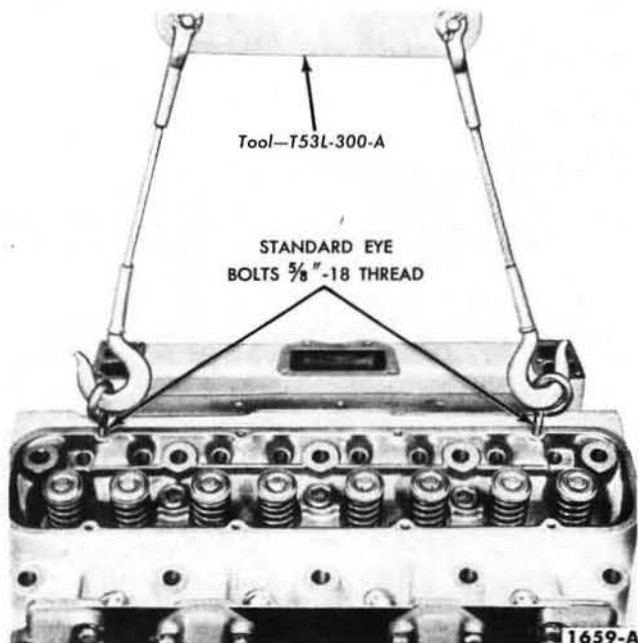

FIG. 20—Cylinder Head Removal or Installation
3. Install standard eye bolts with $\frac{5}{8}$ -18 threads in the cylinder head and attach the engine lifting sling (Fig. 20). Remove the remaining cylinder head bolts. Raise the cylinder head and carefully remove it from the engine.
3. Position the cylinder head on the engine (Fig. 20), then install, but do not tighten, the five outside bolts.